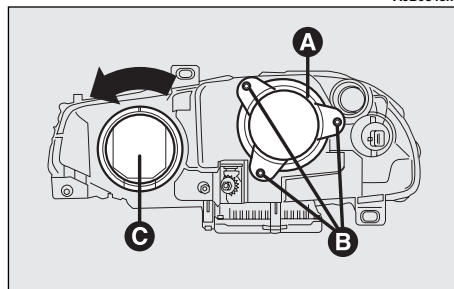
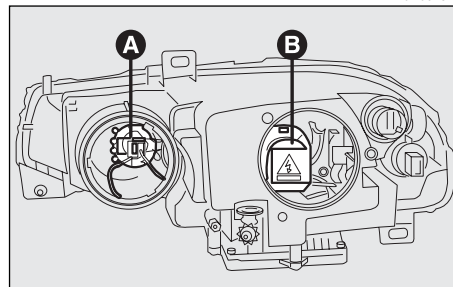
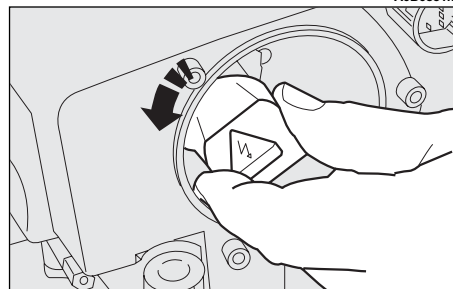

fig. 23
fig. 24
fig. 25
- Unscrew the three locking screw (B-fig. 23) and remove the protective (A) cover.
- Rotate the connector (B-fig. 24) of the Xenon lamp by a quarter of a turn counter-clockwise, as indicated in (fig. 25) and remove it.
- Refit the protective cover correctly (**A-fig. 23**).
- Turn the protective cover counterclockwise (**C-fig. 23**) in order to reach the high-beam headlight bulb (**A-fig. 24**).
- Refit the protective cover correctly (**C-fig. 23**).
- Turn the protective cover (**C-fig. 23**) counter-clockwise in order to reach the side-light bulb.